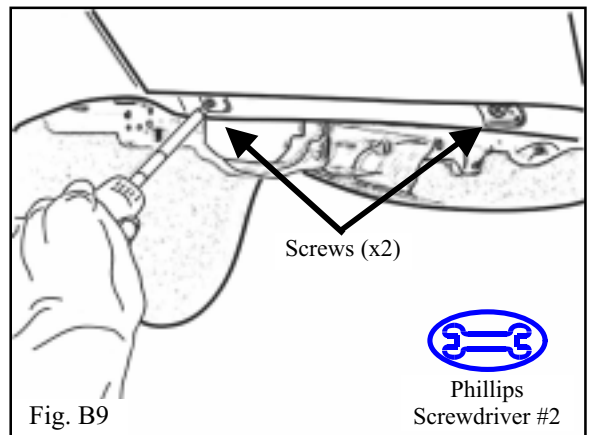

Fig. B9
4. Remove the two (2) screws at bottom of glove box door. (Fig. B9)